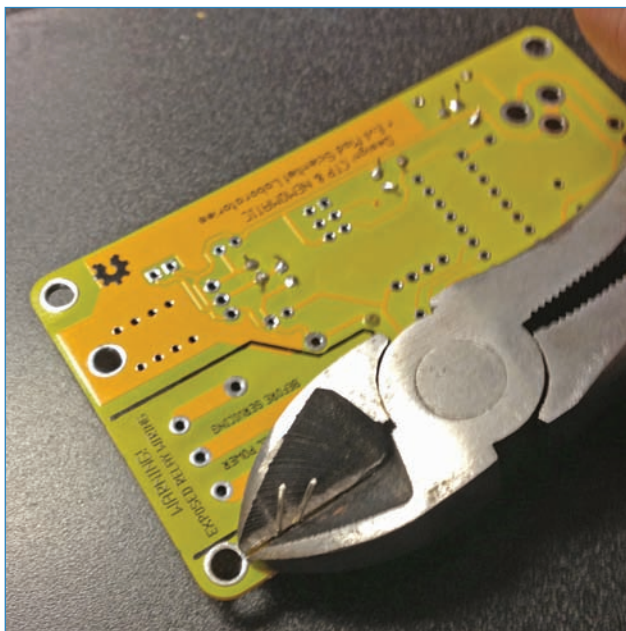

FIGURE 3.18 Clip off excess leads when you're confident the component is secure.
8. If the solder looks good, clip off the excess leads; you won't need them. See Figure 3.18. You can then move on to the next component.